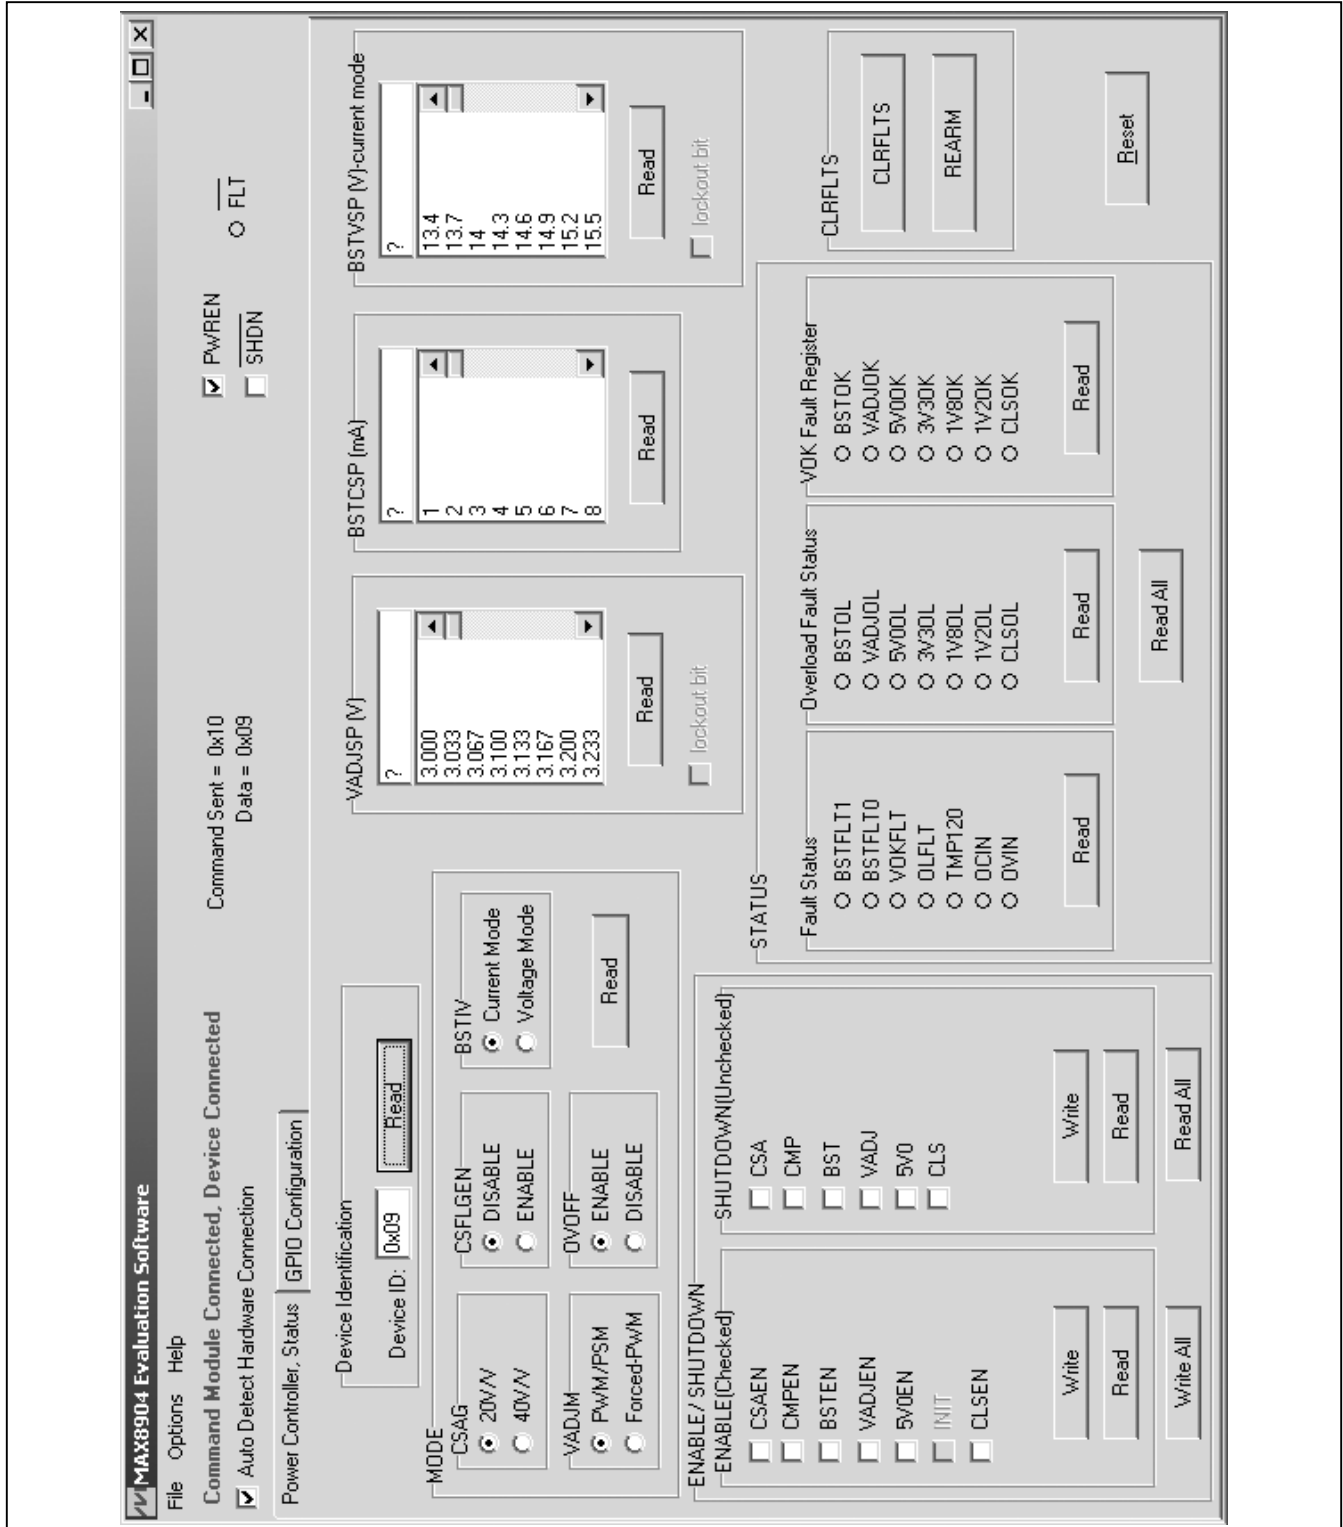
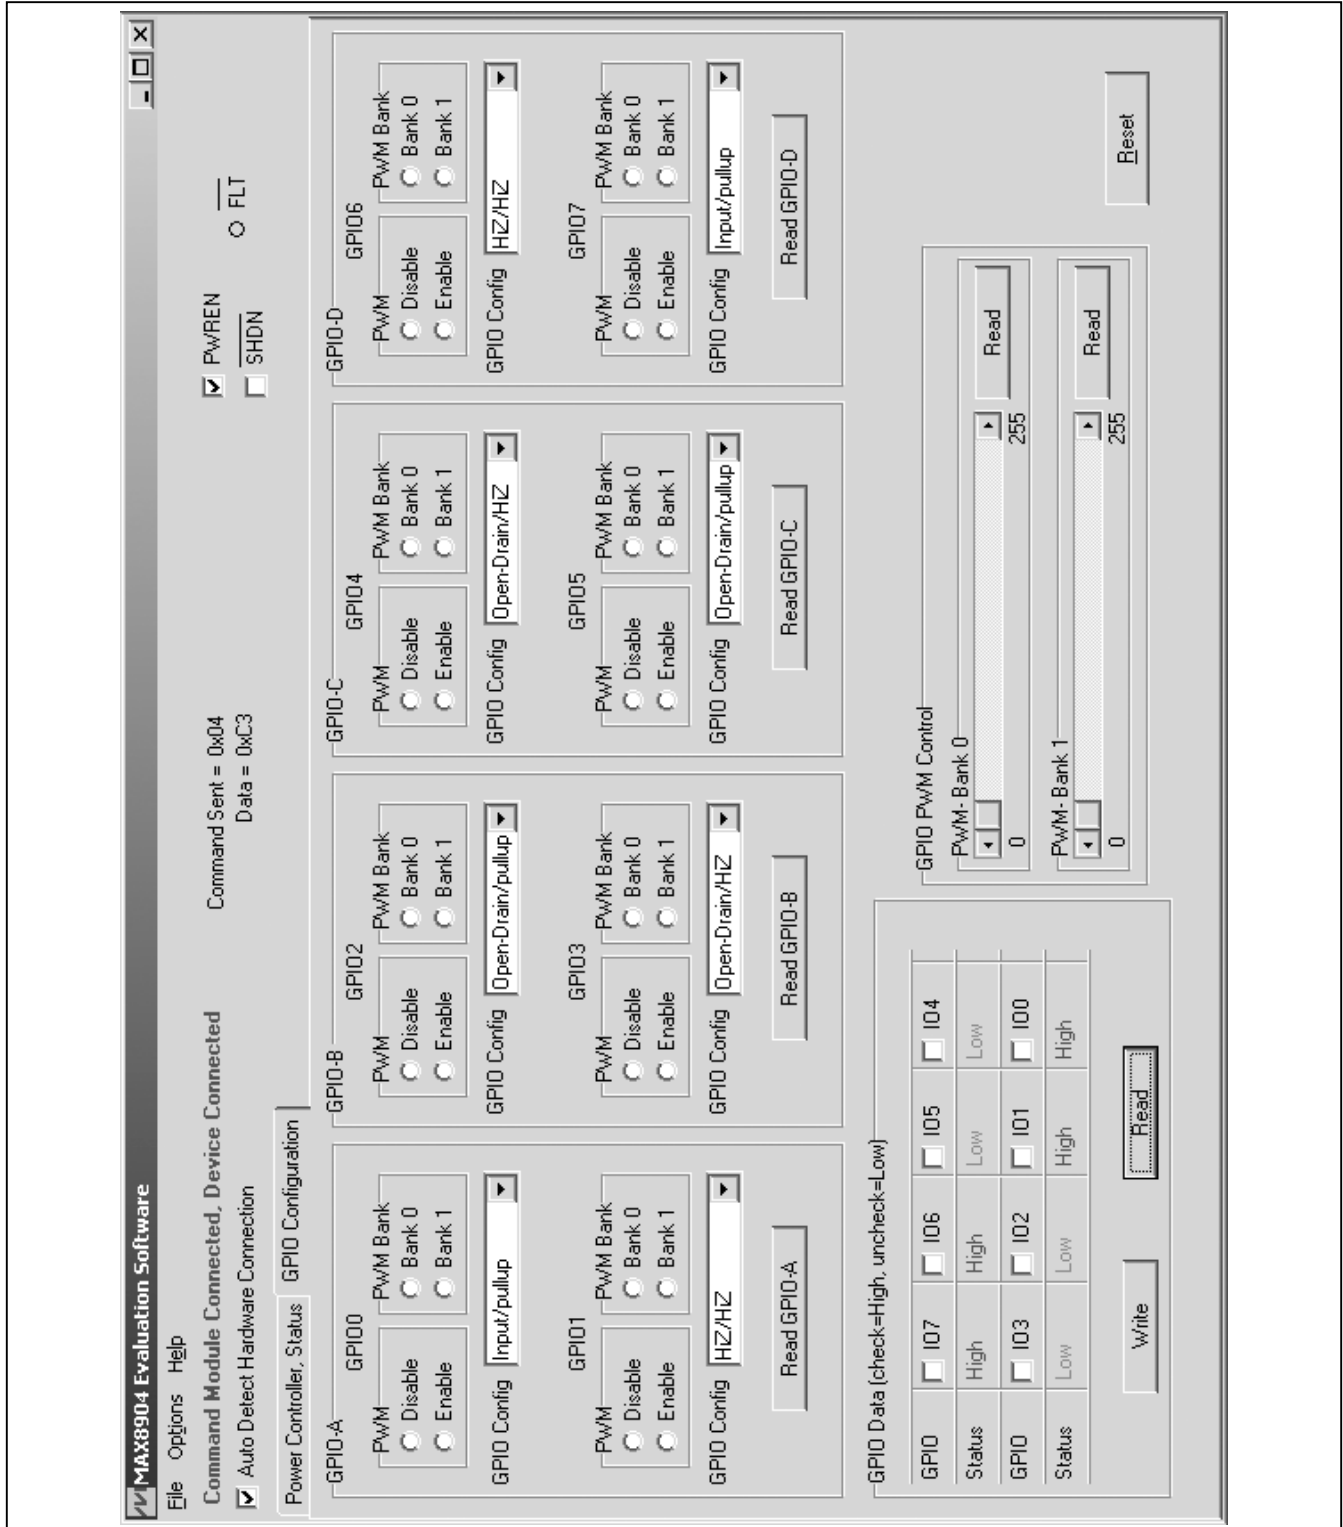
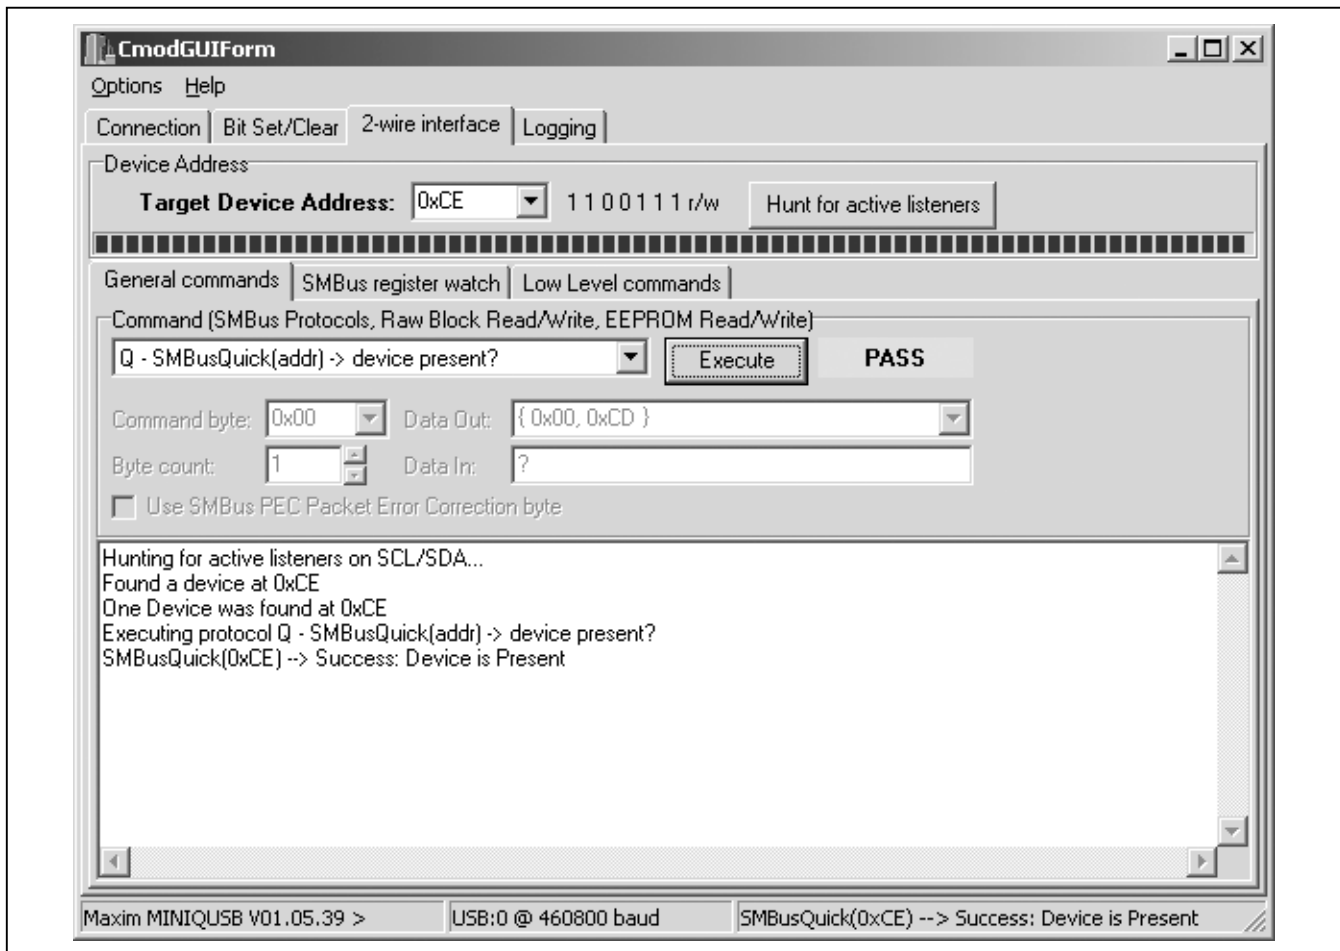

Figure 1. MAX8904 EV Kit Software (Power Controller, Status Tab)
Figure 2. GPIO Configuration Tab
Figure 3. Maxim Command Module Interface (CmodGUIForm) Window
- 9) Start the MAX8904 program by opening its icon in the **Start | Programs** menu. The EV kit software main window appears, as shown in Figure 1.
- 10) Normal device operation is verified when **Command Module Connected, Device Connected** is displayed at the top-left side of the MAX8904 EV kit main window (Figure 1).
- 15) Choose 4.000 from the **VADJSP (V)** group box to set the ADJ output voltage to 4V and check the **VADJEN** checkbox and press the **Write** button in the **ENABLE/SHUTDOWN** group box to turn on the ADJ step-down converter.
- 18) Choose 10 from the **BSTCSP (mA)** group box to set the LED current to 10mA. Choose **32** from the **BSTVSP (V)-current mode** group box to set the overvoltage threshold for BST current-mode operation to 32V. Check the **BSTEN** checkbox and press the **Write** button in the **ENABLE/SHUTDOWN** group box to turn on the BST step-up converter.
- 20) Switch to the **GPIO Configuration** tab, as shown in Figure 2. Choose **Open-Drain/HiZ** from the **GPIO Config** drop-down list for GPIO4–GPIO7.
There are two methods for communicating with the MAX8904, through the normal user-interface panel (Figure 1), or through the SMBus commands available by choosing the **Options | 2-wire Interface** menu item from the menu bar. The I2C/SMBus commands allow low-level I2C commands to be sent and are typically used for debugging purposes. The **Maxim Command Module Interface (CmodGUIForm)** window (Figure 3) pops up and includes a **2-wire interface** tab that allows for execution of the simple I2C commands.
The **SMBus dialog** boxes accept numeric data in binary, decimal, or hexadecimal. Hexadecimal numbers should be prefixed by \$ or 0x. Binary numbers must be exactly eight digits. See Figure 3 for an illustration of this tool.